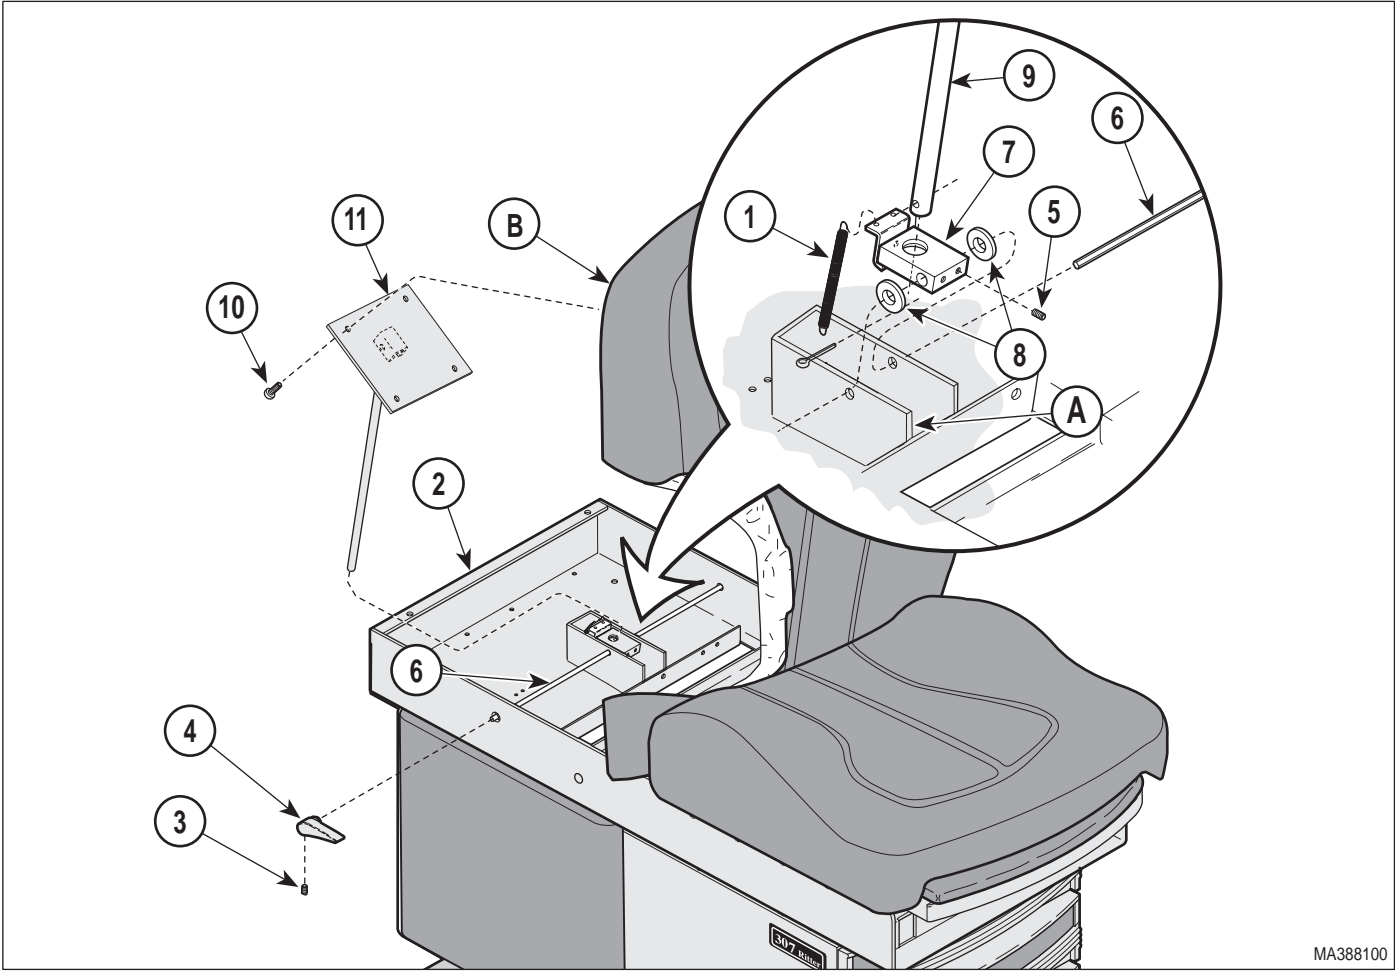

Figure 4-30. Back Lock Assembly Removal / Installation
- (5) Remove the four screws (10) that secure the upper wrap cover (9) to the upper wrap weldment (7) and remove the upper wrap cover.
- (6) Disconnect the back lock springs (1, Figure 4-30) from the upper wrap weldment (2).
- (7) Loosen the set screw (3) and remove the back lock handle (4).
- (8) Loosen the two 1/4-20 x 3/8 set screws (5) that secure the back lock rod (6) to the back lock assembly (7).
- (9) Pull the back lock rod (6) out of the back lock assembly (7), two washers (8) and the bracket (A) of the upper wrap weldment (8).
- (10) Remove the back lock assembly (7) and two washers (8) from the bracket (A) of the upper wrap weldment (2).
- (1) Insert the back lock rod (6, Figure 4-30) thru the bracket (A) of the upper wrap weldment (2), two washers (8) and back lock assembly (7).